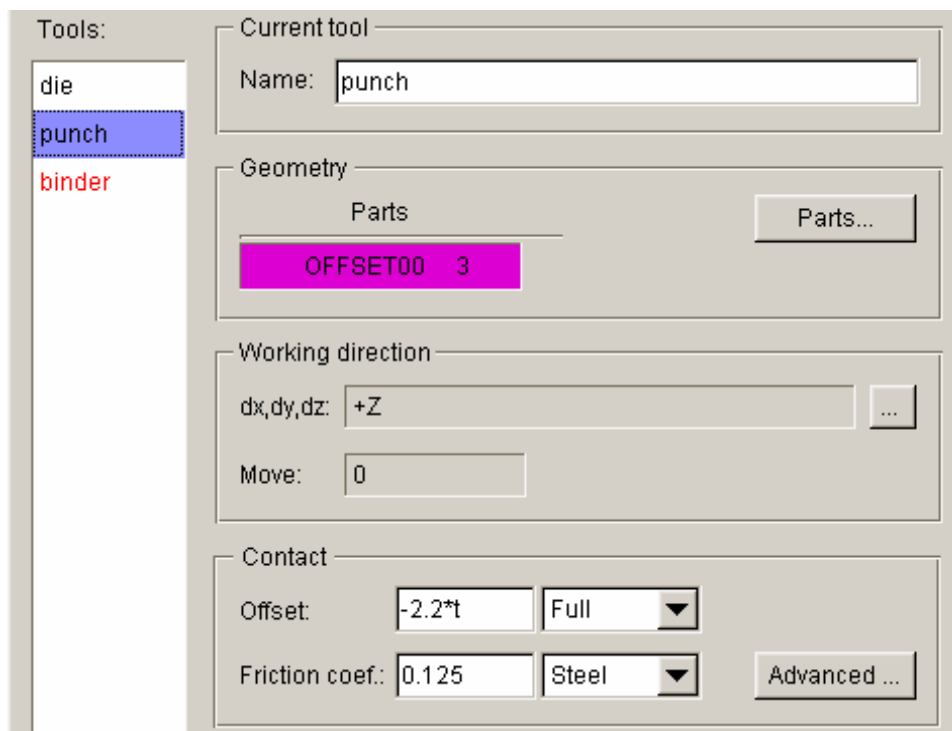

Figure 1.26 Punch definition interface
17. Click **Exit** button to return to the tool definition interface. The font color of **punch** is also changed to BLACK, as illustrated in Figure 1.26. It means the **punch** has been defined.